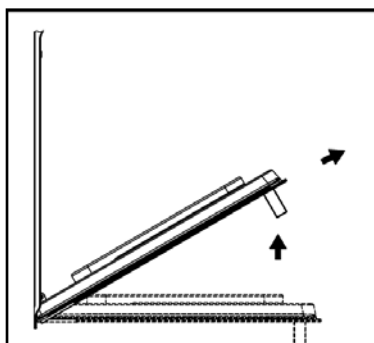

Fig 2
- › Now, shutting the door slightly, you can lift it out by pulling out the hooks "A" as shown in figure 2.
2. Take out inner glass slowly. (Fig.2)